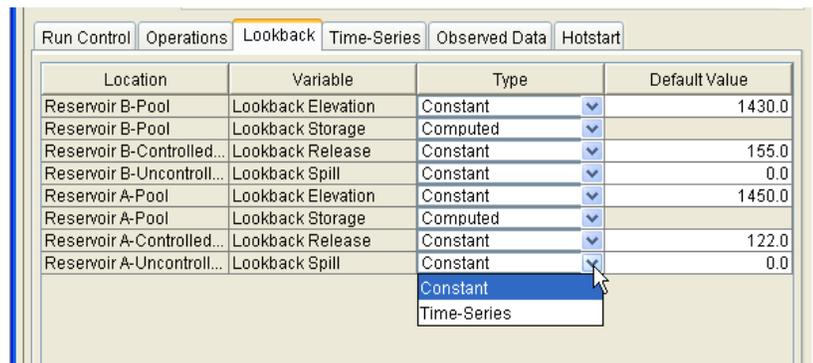

Figure 30. Alternative Editor, Lookback Tab
- On the **Lookback** tab [Section 13.7], select the initial conditions **Type** (Times-Series or Constant) from the list for each Location listed, as shown in Figure 30. This is similar to selecting the operation set per reservoir. For **Variables** defined as Constants, enter a constant **Value** for the Elevation or Release.